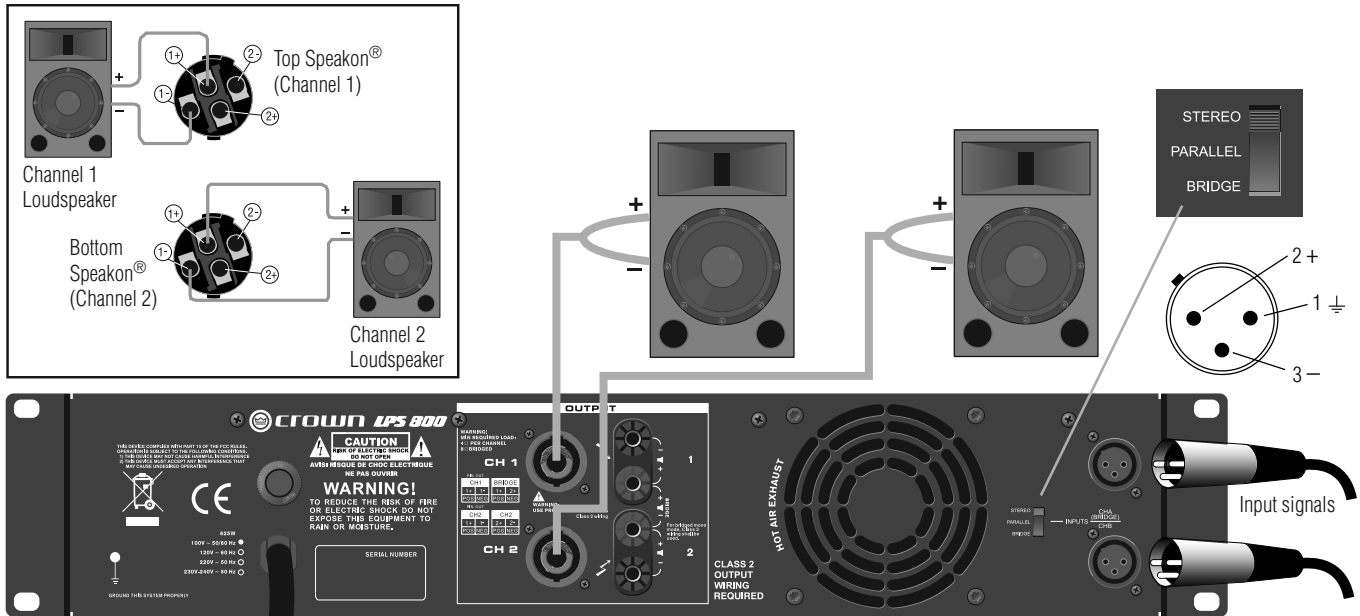

Figure 3. Stereo (Dual) Wiring With Speakon® Connectors
1. See Figure 3. On the back panel, set the Output Mode Switch to STEREO.